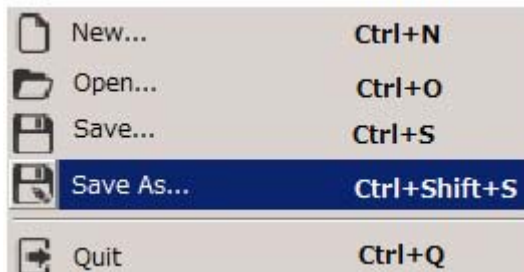

Figure 7-50 Save project file
b) Click Save As. (Figure 7-50)